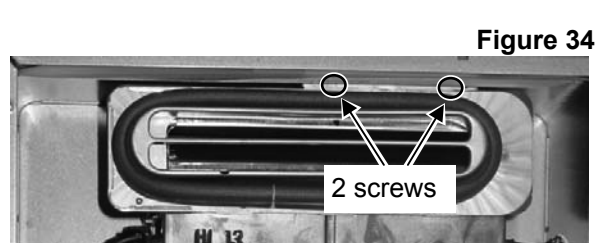

Figure 34
20. Remove 2 screws above the exhaust. Pull assembly from the unit. (Figure 34)